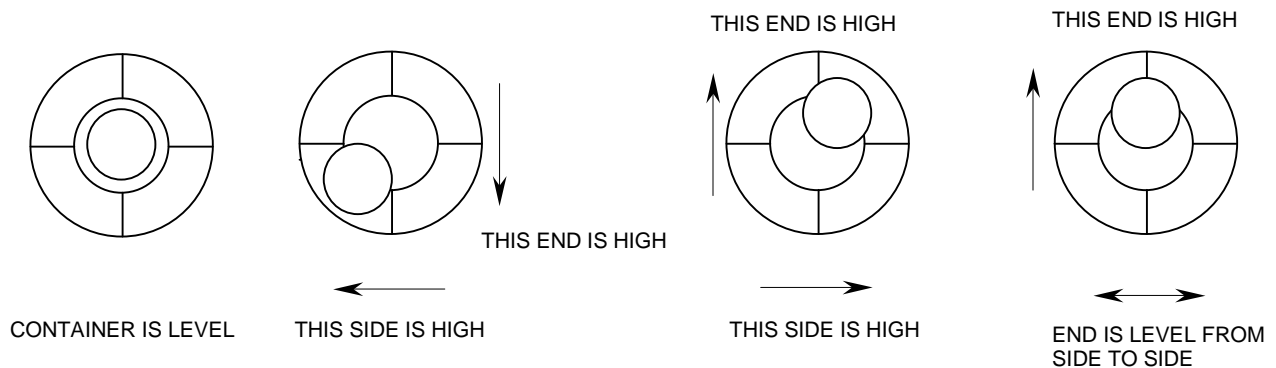

Figure 3. Bubble Level Indications.
9. Locate the bullseye level mounted on the end of the container in a recess in the corner block, to the left of the personnel access door. Figure 3 shows typical bubble level indications and what they mean.
**CONTAINERIZED KITCHEN (CK)
1. Locate the two bullseye levels mounted on the ends of the container, in recesses in the corner blocks. One is to the left of the personnel access door, and the other is at the opposite end, to the left of the mechanical room doors. Using the levels, identify the high end of the container (personnel door end or mechanical room end). Figure 3 below shows typical level indications and what they mean.